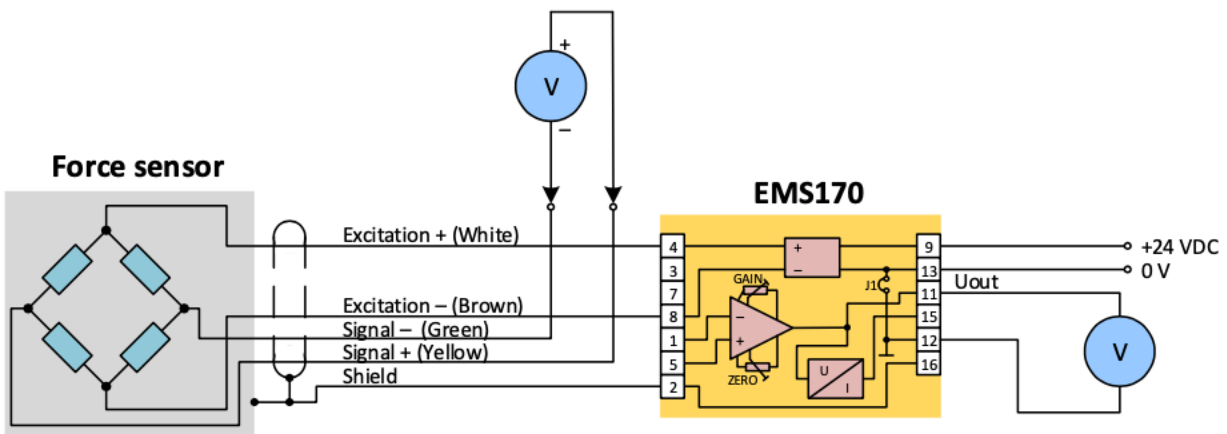

Fig. 12. Measurement the output voltage of the sensor
5. Check the sensor output voltage. Overload of the sensor is relatively common error and it is manifested by the fact that the output voltage of the unloaded sensor (which should theoretically be zero) exceeds the allowed tolerance. The voltage can be measured in the circuit according to fig. 12.